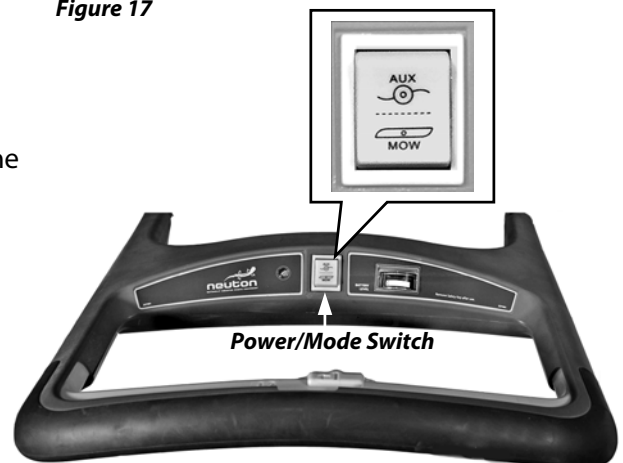

Figure 18
The Power/Mode Switch (**Figure 18**) controls the Mower, Power, and optional Trimmer. This Switch has three (3) settings.